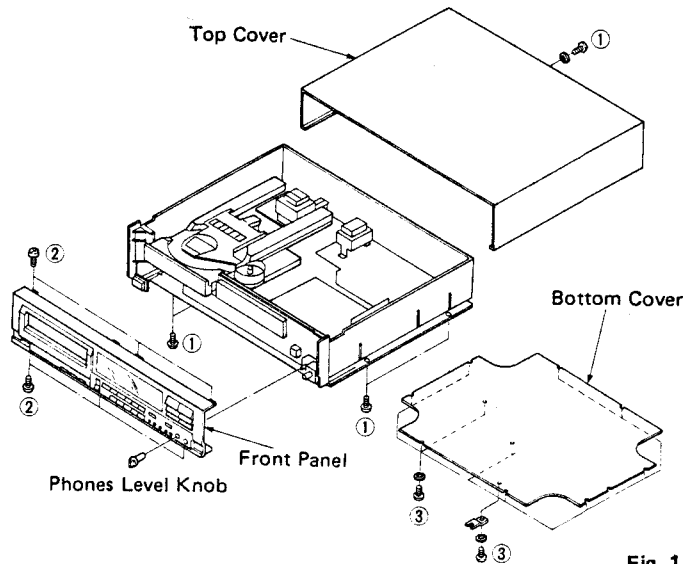

Fig. 1
- Remove 5 screws (①) in Fig. 1, and slide the Top Cover to the back side.
- Remove the phones level knob in Fig. 1.
- Remove 6 screws (②) in Fig. 1, and pull the Front Panel forward.
- Remove 10 screws (③) in Fig. 1.